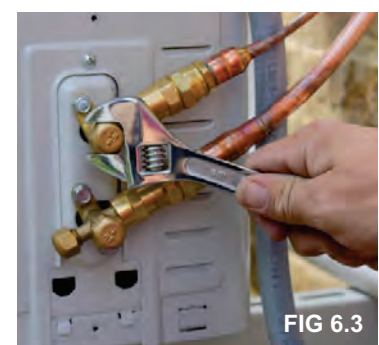

FIG 6.3
6. Remove the cover on the top valve using an adjustable wrench. Using a 5 mm Allen key, place key inside of the valve and turn counter clockwise slowly until you reach a stop (see figure 6.2). Then screw the cap back on the top of the valve and tighten to ensure a proper seal (see figure 6.3).